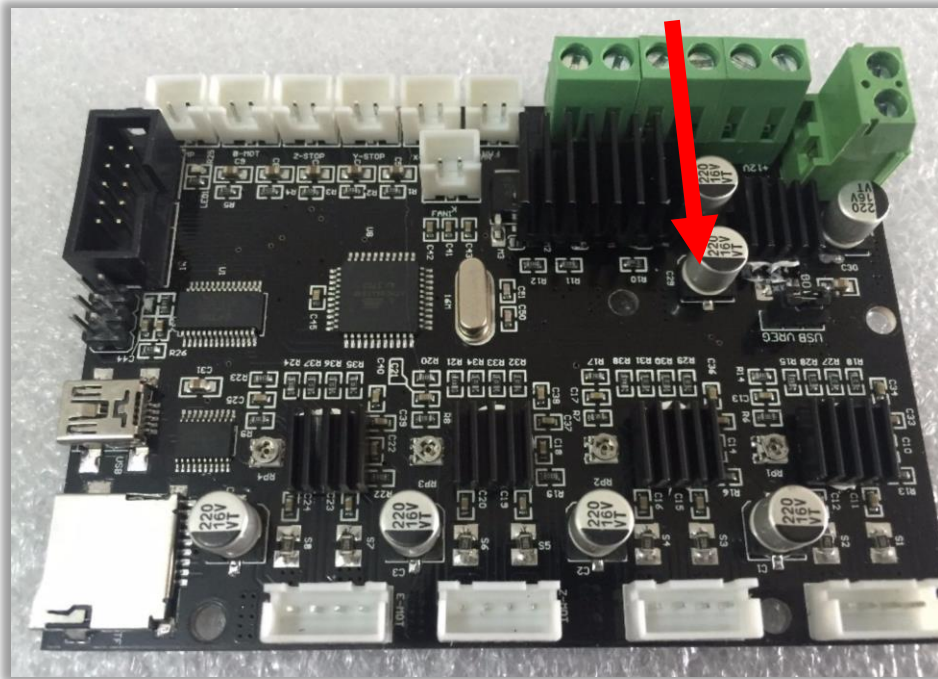

Figure 2: VREG-USB Power Source Jumper
- One (1) male-to-female jumper wire
- One (1) USB type B to USB type B micro
6. Move the jumper on the motherboard from “VREG” to “USB”. What this does is allows the computer to power the board rather than the power source. This can be seen in Figure 2.